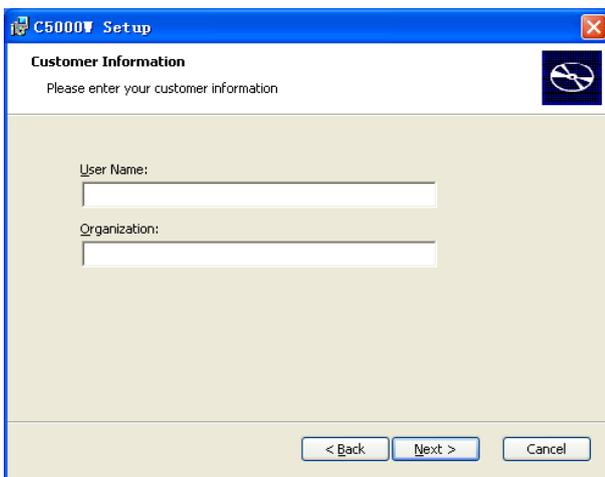
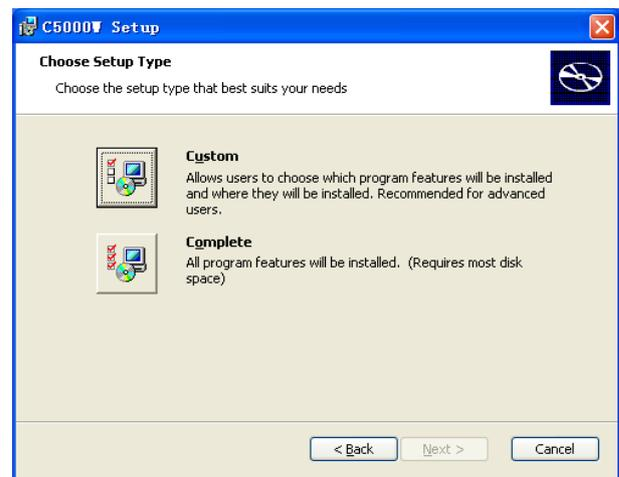
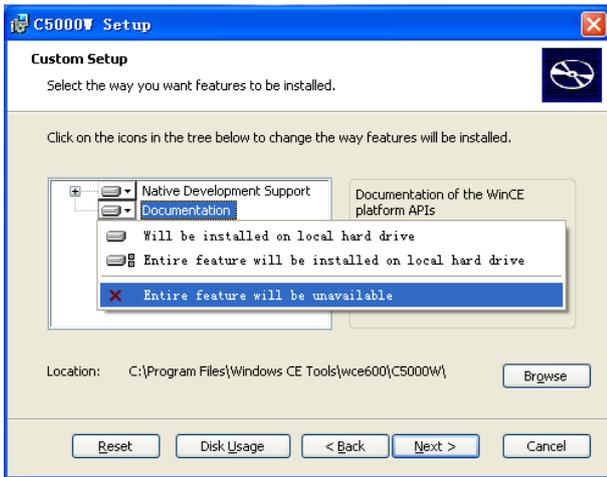
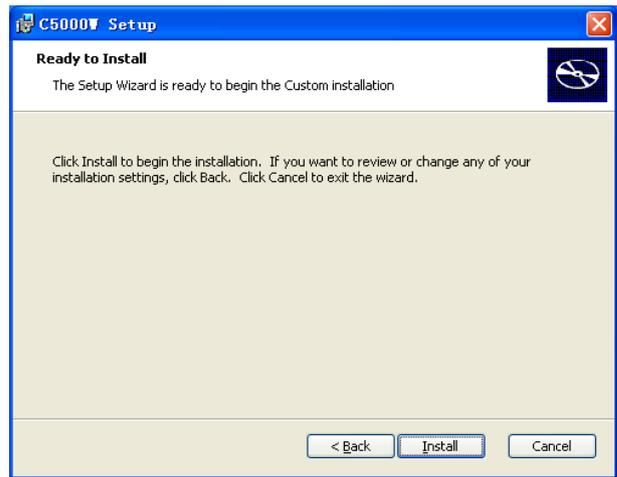

Figure6.1-3
Figure6.1-4
Figure6.1-5
Figure6.1-6
- 4) In Figure6.1-2, users can read the *End-User License Agreement* and choose *Accept* and click *Next* to enter Figure6.1-3 interface;
- 5) In Figure6.1-3, you can fill in the blanks for *User Name* and *Organization*, when the information is input click *Next* to enter Figure6.1-4;
6) In Figure6.1-4, please select **Custom** to enter Figure6.1-5;
7) In Figure6.1-5 select **Documentation** → **Entire feature will be unavailable**. No need to install **Documentation** information because the system will be likely to go failure while installing if this section is selected, Then click **Next** to enter Figure6.1-6;
8) Click **Install** in Figure6.1-6 to start installing SDK and enter Figure6.1-7;
The pins in Figure6.1-2 and Figure6.1-3 are feed through.